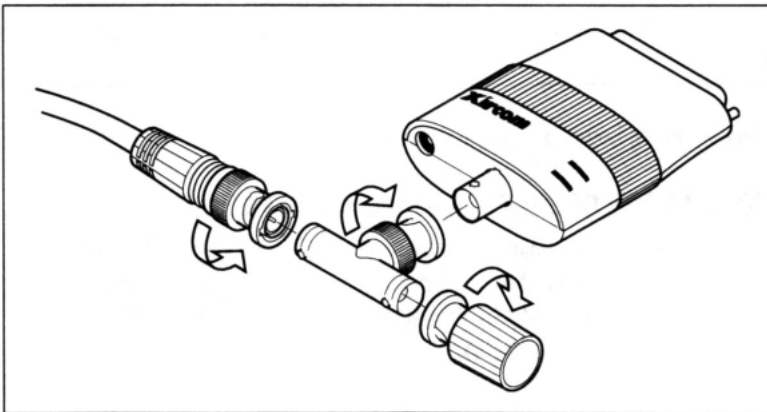
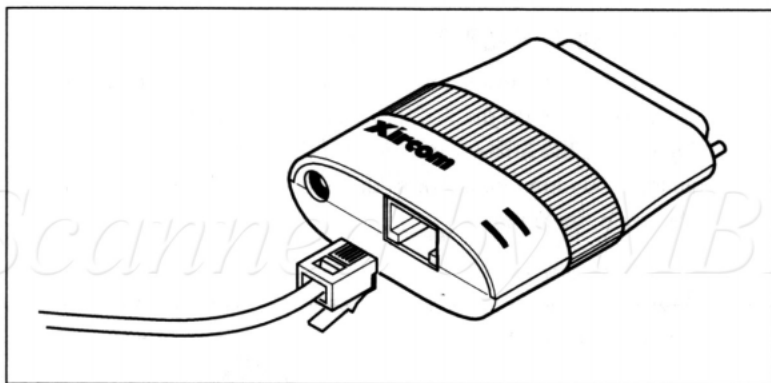

Figure 3. Attaching the Thin Ethernet Cable to Model PE3-10B2 (end of network segment)
Figure 4. Attaching Twisted Pair Cabling to Model PE3-10BT
1. Attach the T connector (and thin Ethernet network cabling) to the BNC connector on the Pocket Ethernet Adapter III as shown in Figure 3. If the Adapter is located at the end of a cable segment, attach a 50-ohm terminator to the open end of the T connector, as shown in the Figure.
1. Plug one end of the modular data cable into the mating connector on the Pocket Ethernet Adapter III, as shown in Figure 4.
- Follow the installation instructions for Model PE3-10B2 if you are connecting to a thin Ethernet network (see Figure 3), or the instructions for Model PE3-10BT for connection to a 10BASE-T network (see Figure 4).